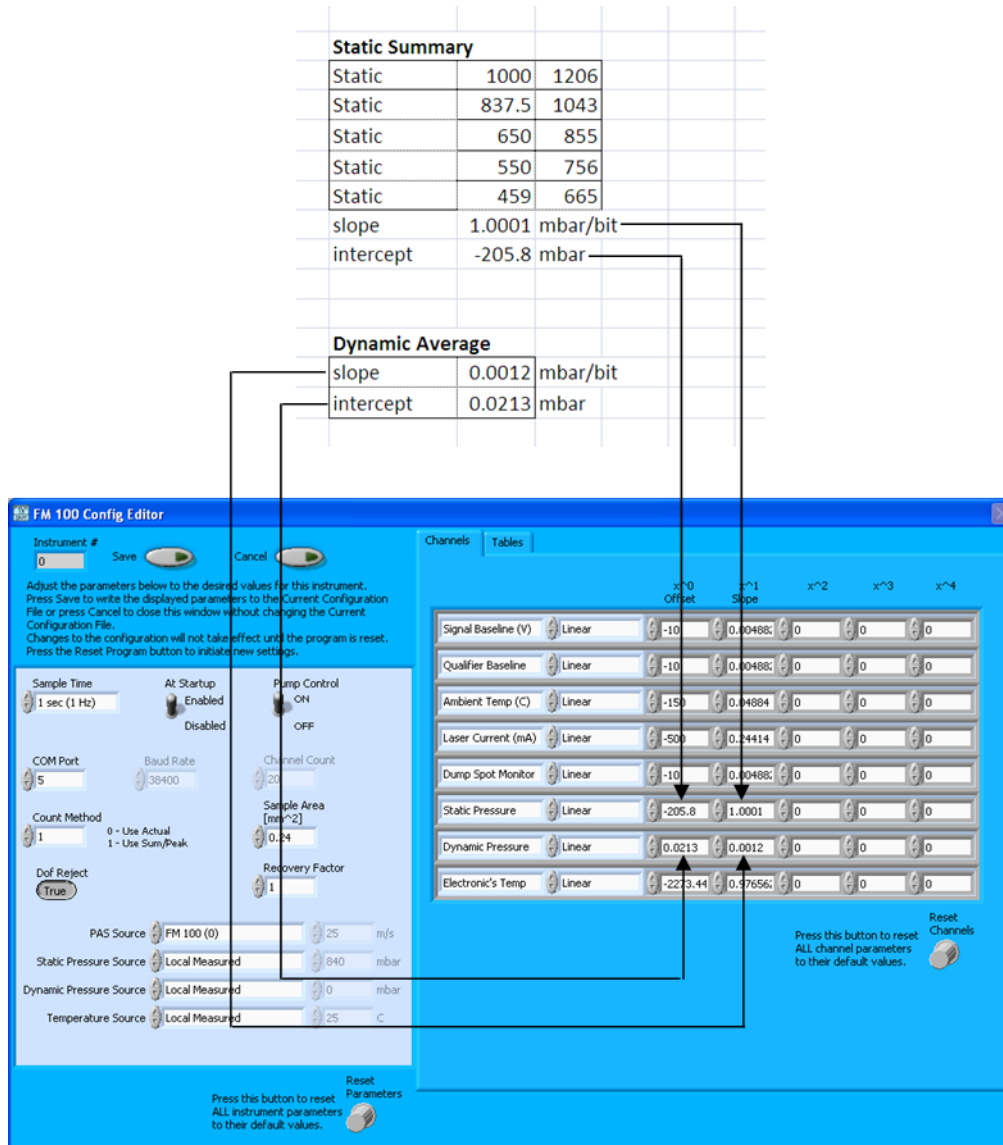

Figure 1: Inserting New Pitot Calibration Coefficients in PADS 3.X
- 4.) On the calibration spreadsheet, locate the "Slope" coefficient at the bottom of the **Static Summary** coefficients. Enter this coefficient in the **Static Pressure** row in the PADS Channels table, in the **x¹ Slope** cell. Also, if the intercept coefficient is not the same as that listed in the **x⁰ Offset** cell, update this cell. See Figure 1.